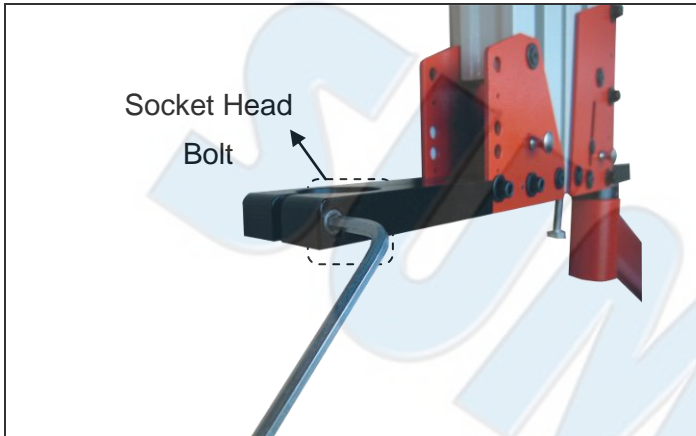

Figure 7-4
- (1) Loosen the socket head bolt (see Figure 7-4).